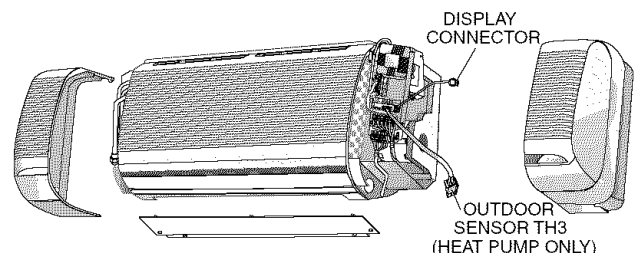

Fig. 7 — Outdoor Sensor Connection
2. Remove both left and right panels and disconnect the display connector (see Fig. 7).
5. Electrical connections are made on the right side; refrigerant and drainage connections on the left. Route the inter-unit control cable and the outdoor sensor cable towards the lower right corner of the indoor unit. (See Fig. 7.)
8. For heat pump units only, connect the Outdoor Sensor TH3 connector to its mating connector (see Fig. 7).